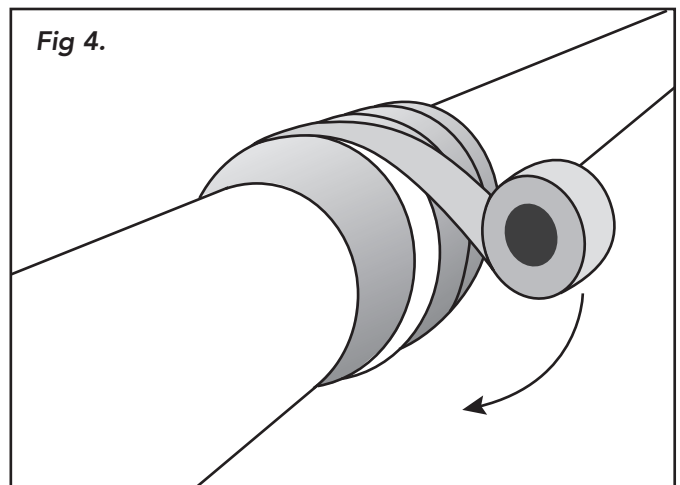

Fig 4. Spirally wrap the coupling or flange with Denso Hi-Tack Tape.
1. Spirally wrap the coupling with 75mm Denso Hi-Tack Tape, overlapping each previous turn by 25mm. The tape is applied and terminated 50mm past the mastic on each side of the coupling or flange. Smooth down thoroughly by hand (see Fig 4).